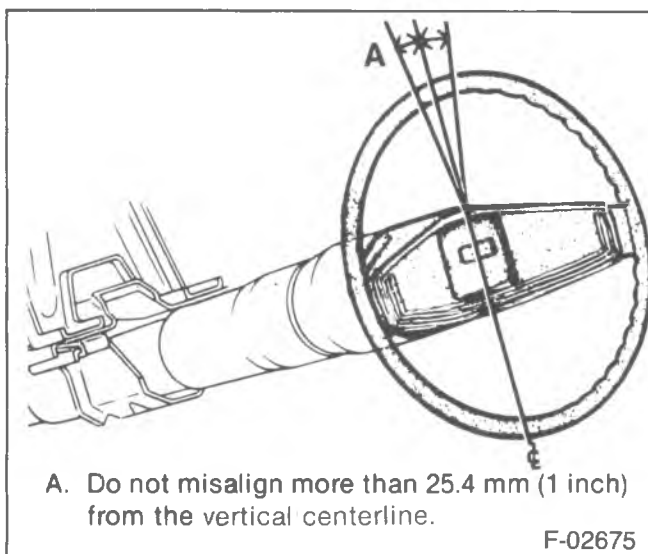

Figure 5—Steering Wheel Alignment
↔ Install or Connect (Figure 5)
- Do not misalign the steering wheel more than 25.4 mm (1 inch) from the horizontal centerline (figure 5).